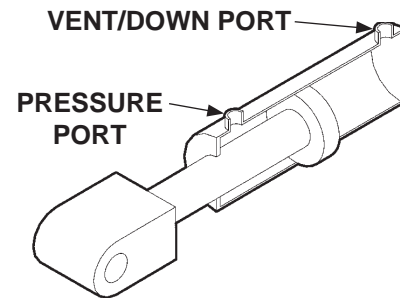

FIG. 51-1
5. Check the hydraulic cylinder. With the platform on the ground, remove the breather plug or vent line from the vent/down port of the cylinder (**FIG. 51-1**). Raise the platform even with the bed. Allow pump motor to run two seconds more while you watch for hydraulic fluid at the vent/down port. A few drops of hydraulic fluid escaping the vent/down port is normal; however, if it streams from the vent/down port, piston seals are worn. Replace seals.